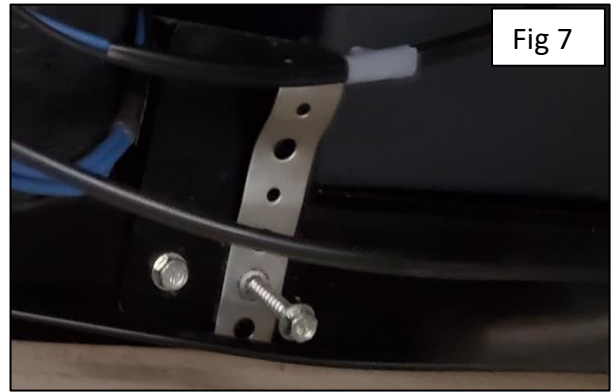

Fig 7
5. Using 5/16 socket, remove fastener and tank strap to access the interior sides of the grey and black tanks. (Figure 7)